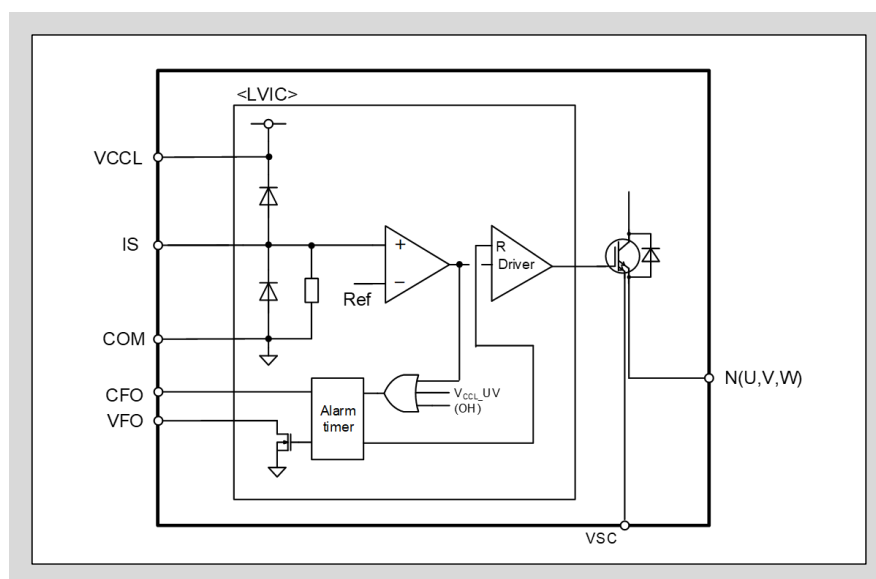
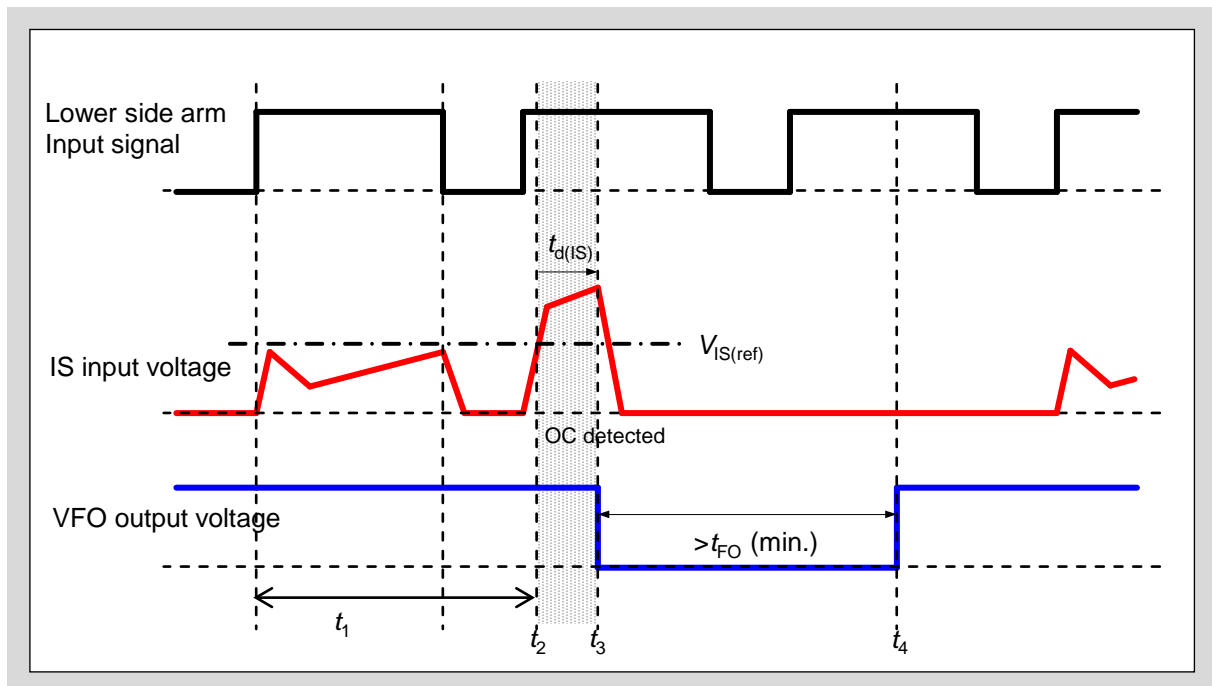

Fig. 3-19 OC protection detection circuit of IS terminal
Fig. 3-20 OC protection operation sequence
- The overcurrent (OC) protection works by detecting the voltage generated at the external shunt resistor connected between N(U,V,W) and COM terminal, or the voltage generated at the sense resistor connected between VSC and COM terminal, and input to IS terminal. When this voltage exceeds  $V_{IS(ref)}$ , all low-side IGBTs are turned-off and fault output is generated.
- Fig. 3-19 shows the OC protection detection circuit of IS terminal. Fig. 3-20 shows the OC protection operation sequence.
- As shown in Fig. 3-19, diodes are connected between VCCL-IS and IS-COM terminals. These diodes are built-in to protect the product from input surge voltage. Do not use these diodes for voltage clamp purpose as it might damage the product.